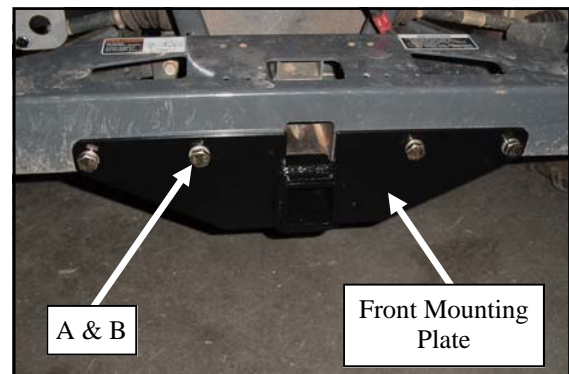

Fig 2.1 Mounting Hitch Front Mounting Plate
- 2.2 Per Fig 2.1 & 2.2, Install four M12 x 1.25 x 35mm bolts (A) and 12mm lock washers (B) through the holes in the brush guard and two M12 x 1.25 x 35mm bolts (C) and 12mm lock washers (D) through the holes in the rear bracket of the mounting frame, threaded into the holes in the front cross angle and front skid plate of the vehicle. Check for fit up and if need be shim rear mounting plate with shims provided. Torque the M12 bolts (A & C) to (60 lb-ft) (81 N-m).